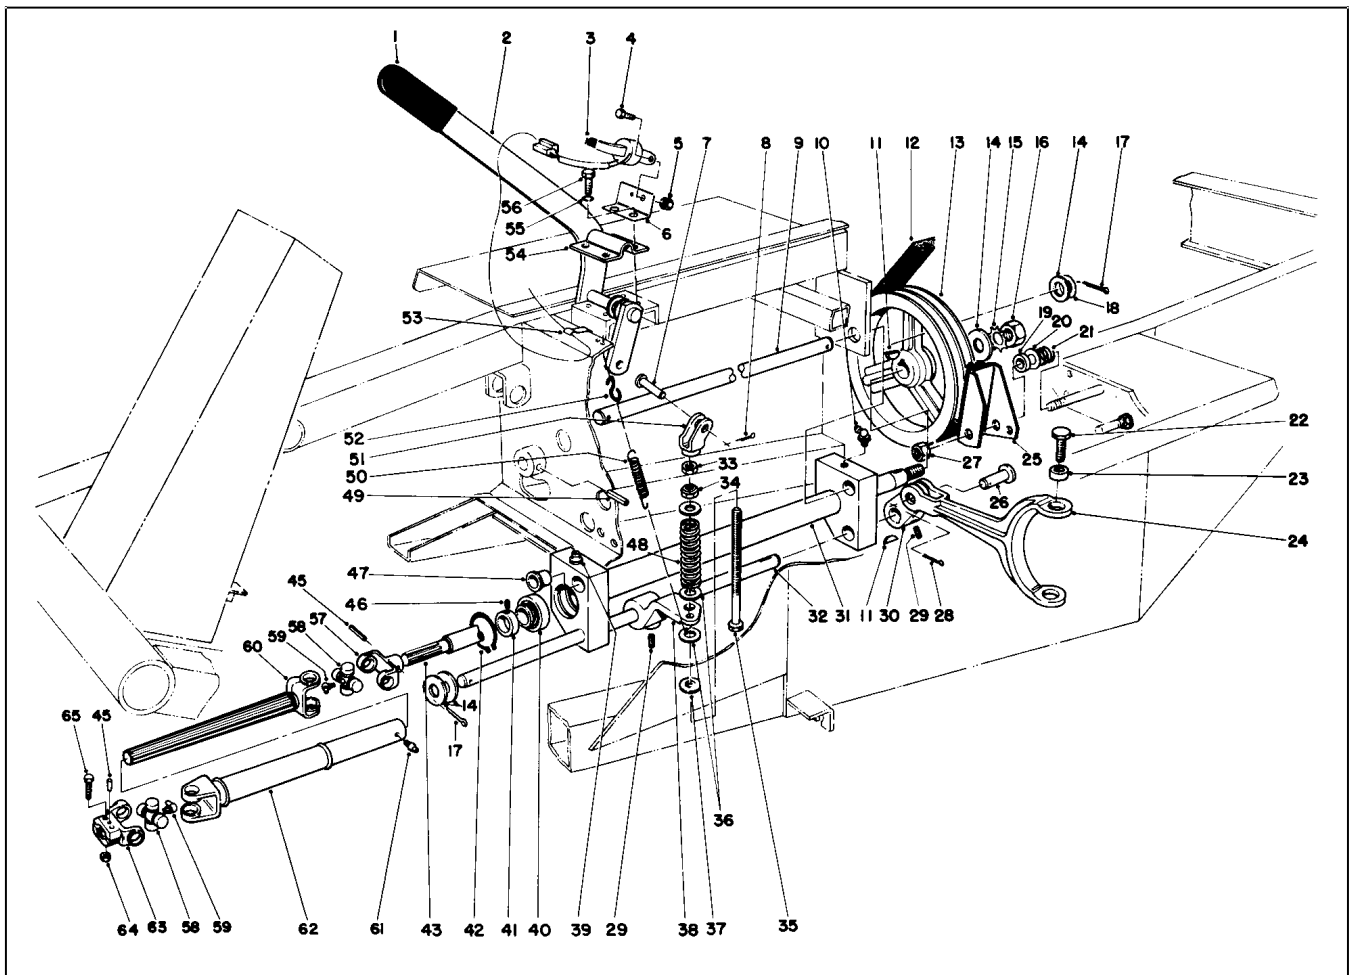

Figure 14
4. Remove the long cap screw (Fig. 14, Item 35) that passes through the P.T.O. compression spring (Item 48). Have a helper hold the nuts (Item 33, 34) on the top of the compression spring using the appropriate wrench. Then remove the spring, washers and cap screw.
PTO Shaft and Bearing Service (Fig. 14)